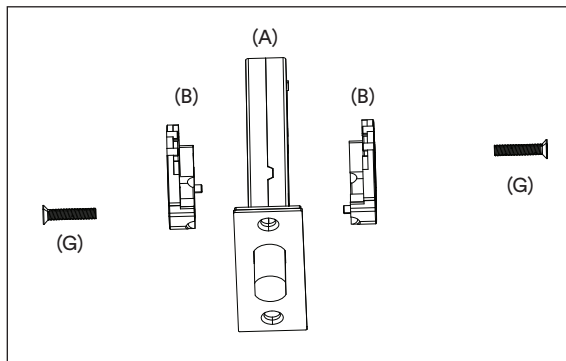

Figure 3.
6. Unbuild the deadbolt by removing the euro cylinder brackets (B) from both sides of the deadbolt euro body (A). Figure 3.